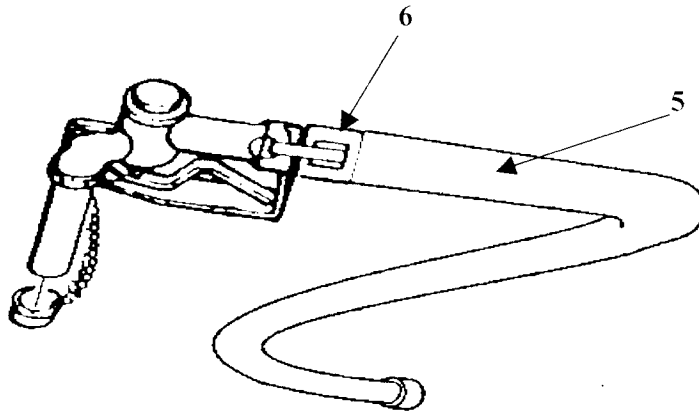

Figure 4-11 Fuel Dispensing Hose.
(2) Install hose assembly (5, Figure 4-11) at dispensing unit fuel manifold bottom loading valve port for fuel dispensing or stow for use later.